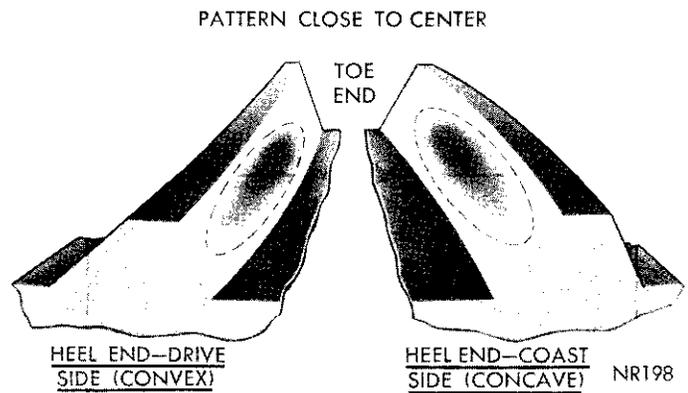

Fig. 32—Desired Tooth Contact Under Light Load
(1) Turn bearing adjuster (tooth side of drive gear) (Fig. 32) in a notch at a time (notch referred to is the adjuster lock holes) until backlash between drive gear and pinion is a minimum of .006 to .008 inch. This will preload differential bearings and establish correct backlash.
(1) Apply a thin film of red or white lead on both the drive and coast side of the drive gear teeth. Rotate drive gear one complete revolution in both directions while load is being applied with a round bar or screwdriver between the carrier casting and differential case flange. This action will leave a distinct contact pattern on both the drive and coast side of the drive gear teeth.
(2) Observe the contact pattern on the drive gear teeth and compare with those in figures 32, 33 and 35 to determine if pattern is properly located. With pinion depth of mesh and gear backlash set properly, your contact pattern should resemble that in (Fig. 32). Notice that the correct contact pattern is well centered on both drive and coast sides of the teeth. When tooth contact patterns are obtained by hand, they are apt to be rather small. Under the actual operating load, however, the contact area increases.